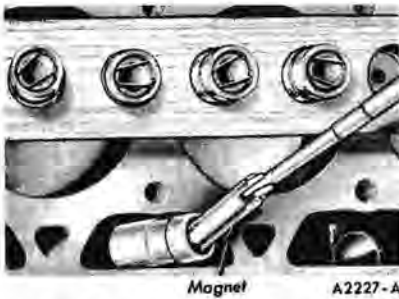

FIG. 31—Valve Lifter Removal
12. Using a magnet, remove the valve lifters and keep them in order so that they can be installed in their original location (Fig. 31).
2. Using a magnet, remove the valve lifters (Fig. 31). Place the lifters in a rack so they can be installed in their original positions.
3. Install new (or cleaned) hydraulic valve lifters through the push rod openings with a magnet (Fig. 31).